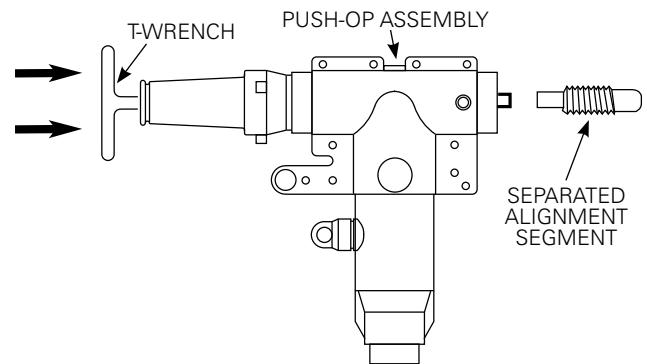

Figure 14. Line illustration of T-Wrench installation.
- See Figure 14 for illustration of completed LRTP installation.